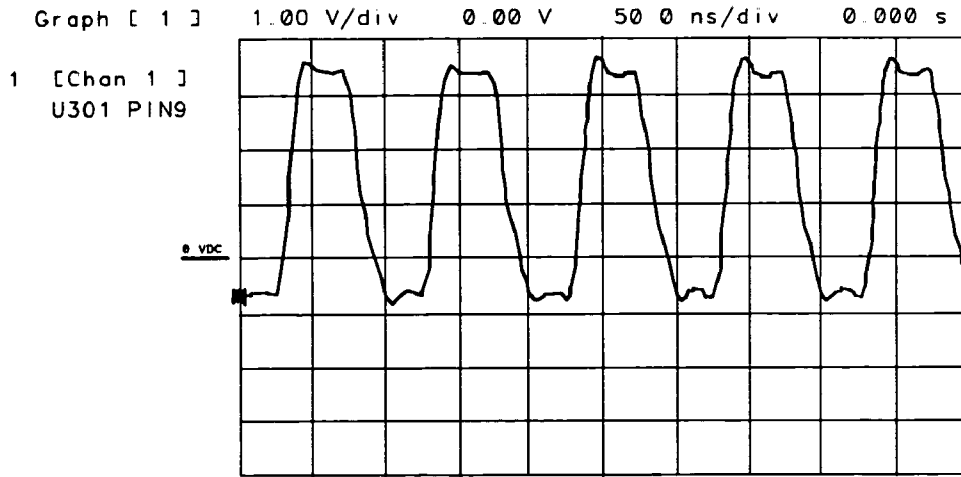

Figure 12-5. 10 MHz Reference at A15J302
3. Check for a 3 V p-p waveform at A15J302 using an oscilloscope (see Figure 12-5).